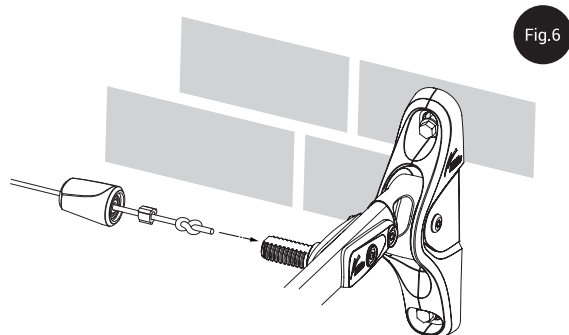

Fig.6
- 3.1 Feed the line through the line tensioner dial and sliding insert; then tie a simple small knot. Slide the knotted line into the threaded sleeve and tighten the dial onto the threaded insert. Tighten only two turns, allowing sufficient thread to tension later. (Figure 6)